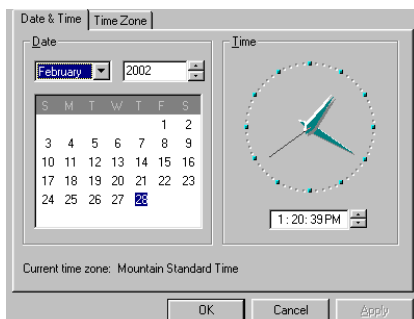

Figure 2-29 Date/Time Properties Dialog Box (Date & Time Tab)
- Double-click the *Date/Time* icon. The *Date/Time Properties* dialog box displays with the *Date & Time* page open (Figure 2-29).